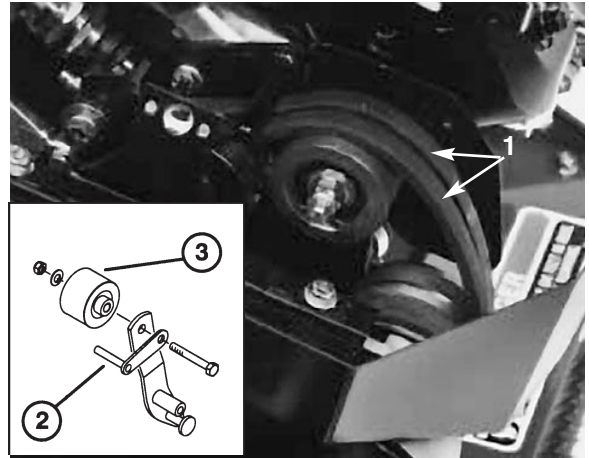

Figure 33
7. To push or pull the machine easier without starting the engine, adjust the belt guide (Fig. 33, inset) as follows: